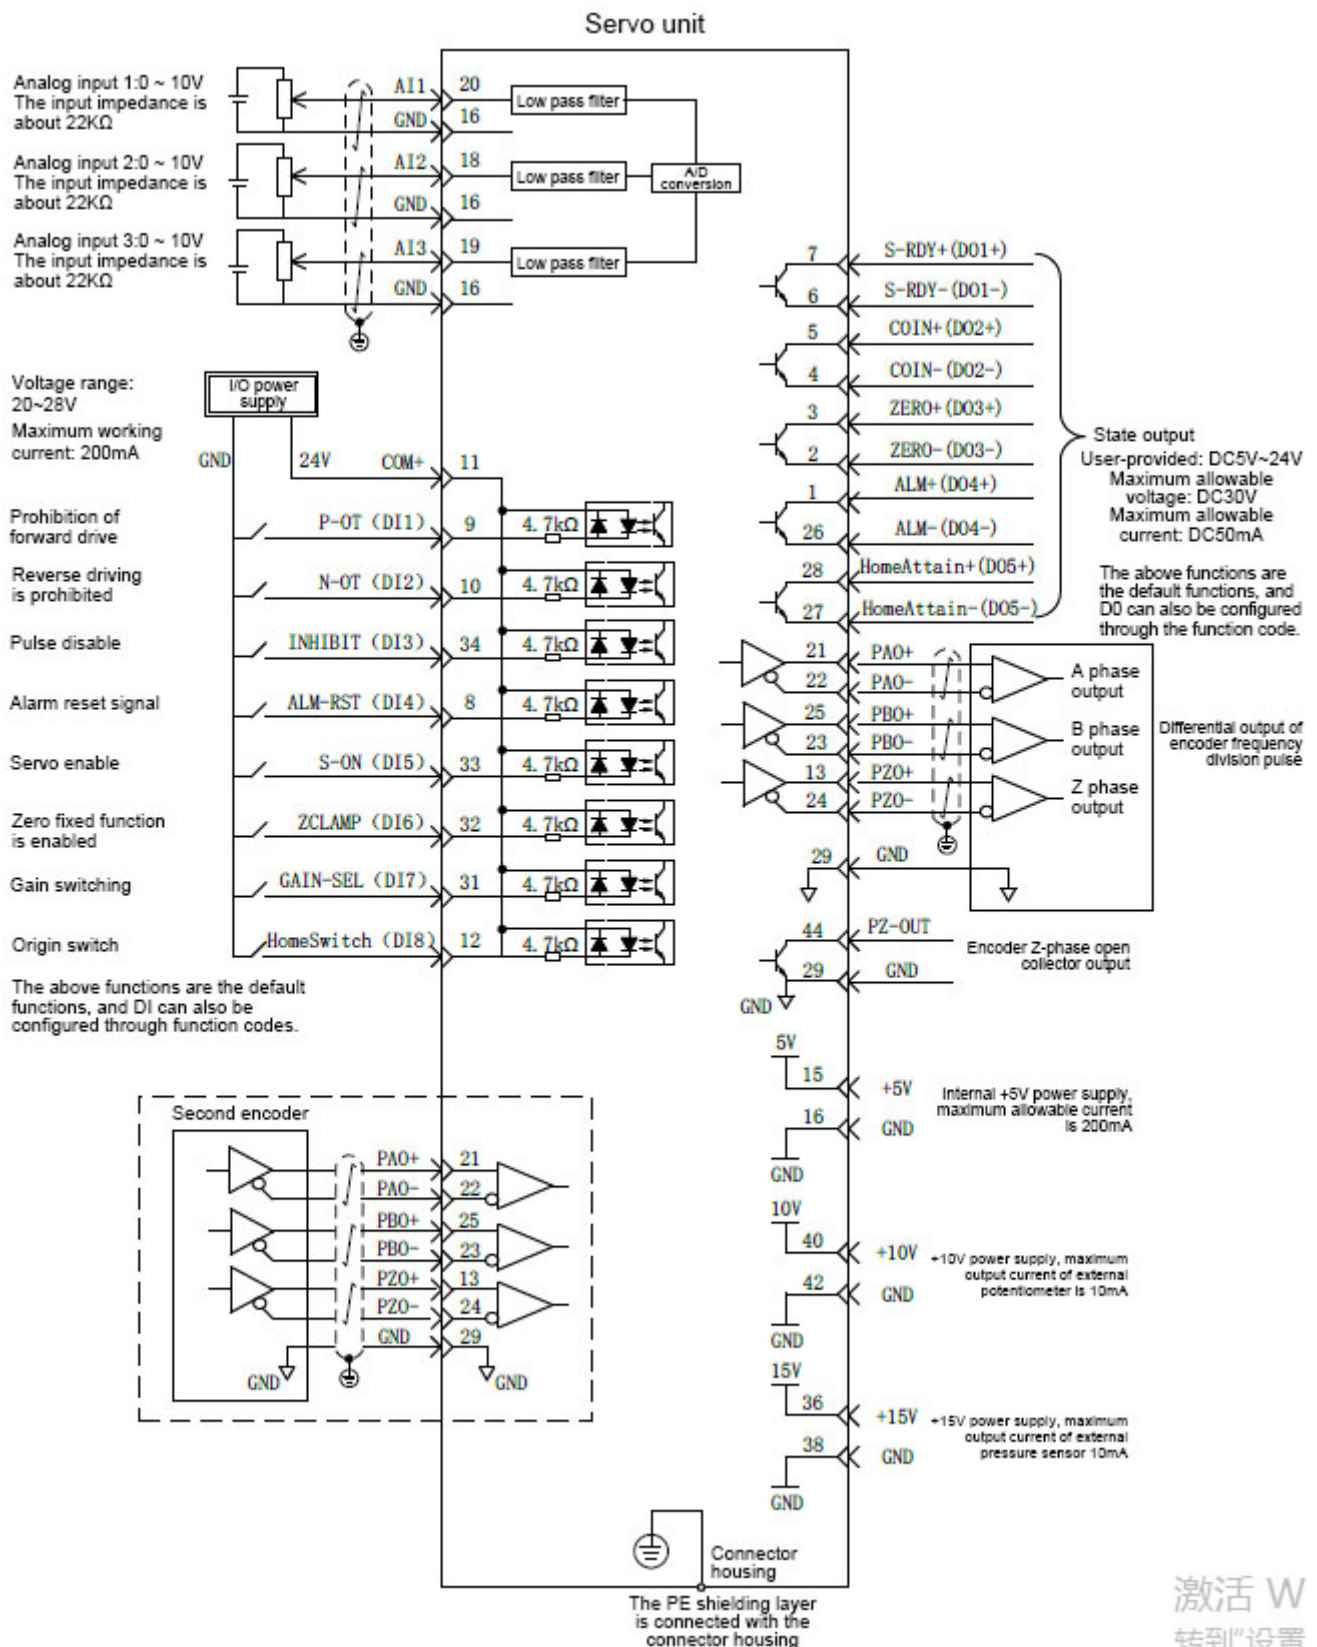

Figure 4-6 Speed Mode Wiring Diagram
3. Refer to Figure 4-6 for wiring to explain the necessary DI/DO signals and analog speed commands for connecting CN2 terminals.